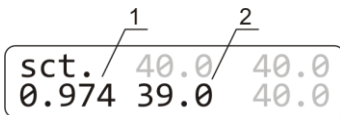

Figure 5. Changing the coefficient:
6.4.6. Using the **▲** and **▼ T, °C** keys, change the calibration coefficient (fig. 5/1) so that the new temperature value (fig. 5/2) corresponds to the independent sensor temperature. In our example, the calibration coefficient will be 0.974.